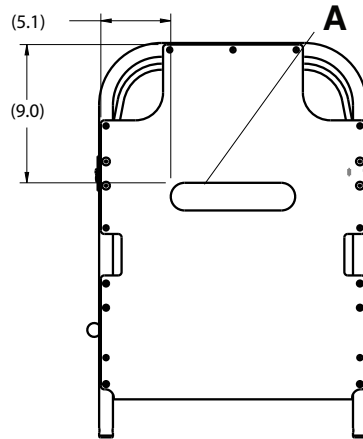

Figure 1 – Apply Velcro® to the Fowler
6. Remove the backing on the Fowler **Velcro®** (A) and apply the **Velcro®** to the surface of the Fowler (Figure 1).